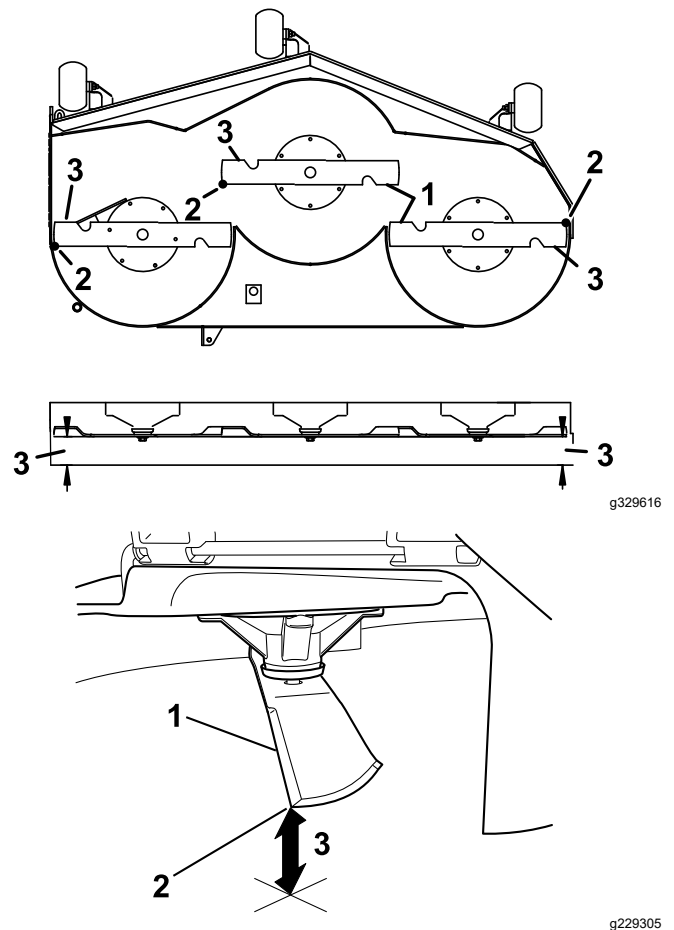

Figure 77
6. Measure between the blade tip and the flat surface (Figure 77). If both measurements are not within 5 mm (3/16 inch), adjust the leveling; continue with this procedure.